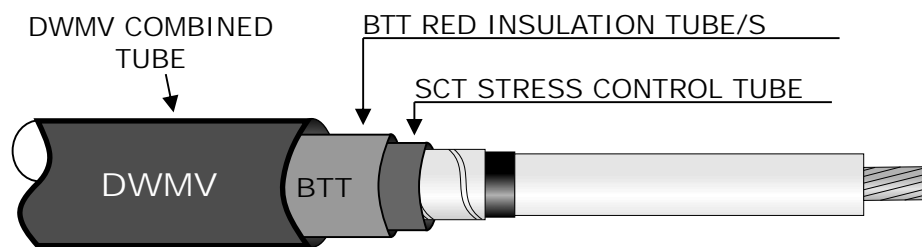

Fig 3
6. Before proceeding, position the Connector Insulation Tubes down one or both of the Cables ends if the Tubes do not "Nest" as shown in Fig 3.